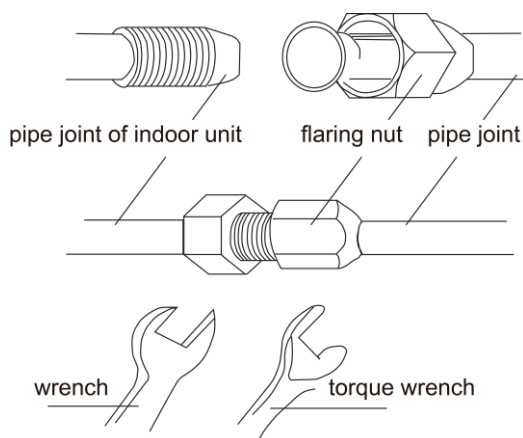

Fig 4.2
- (1) Align the flaring port of copper pipe to the center of screwed joint and tighten the flaring nut tight by hand.
- (2) Use a torque wrench to tighten up the flaring nut as shown in Fig. 4.2, until the wrench clicks.